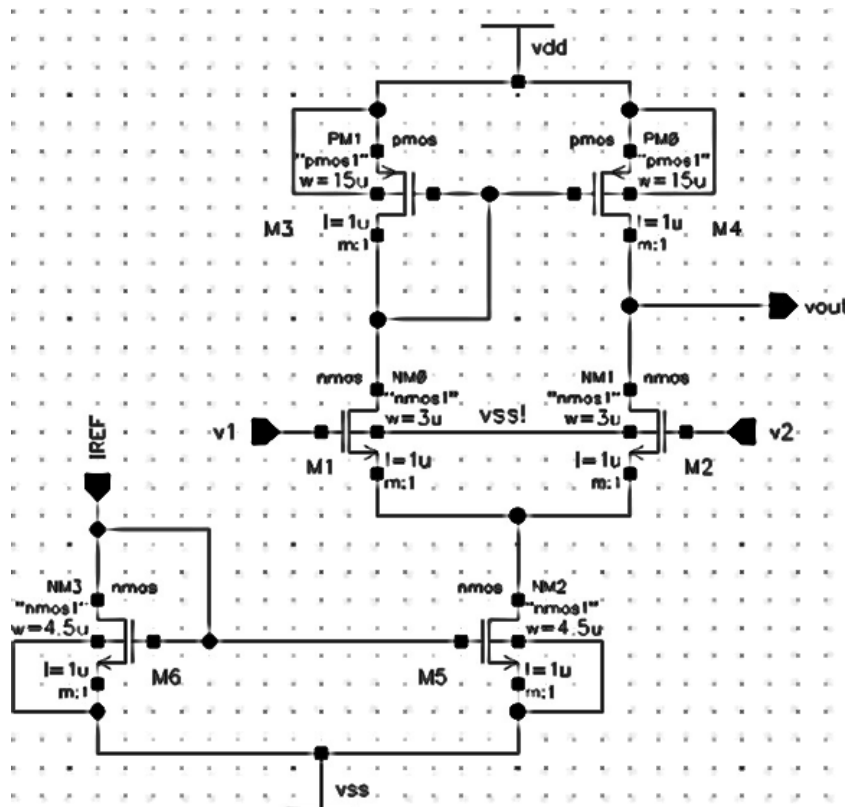

Figure 8.9: Differential Amplifier
1. Built the design schematic based on Fig.8.9 and Table.8.3.